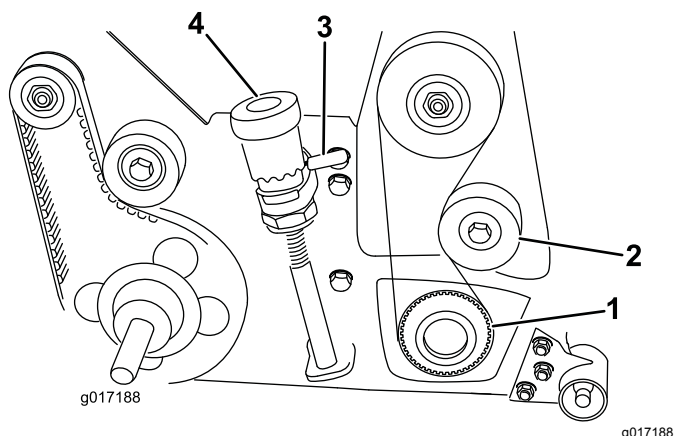

Figure 20
15. Using a 1/2 inch drive ratchet and extension, install the drive pulley (right-hand threads) to the reel shaft (Figure 20).
- Rotate both quick-up levers to raise the grooming reel into the transport position (Figure 20).